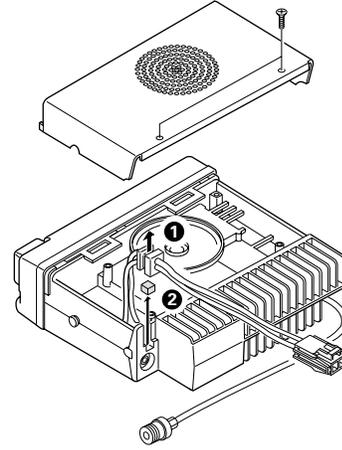

Fig. 8
3. Remove the upper case of the transceiver and lift the DC cable bushing (①) from the chassis.
4. Remove the pad as shown in Figure 8 (②).